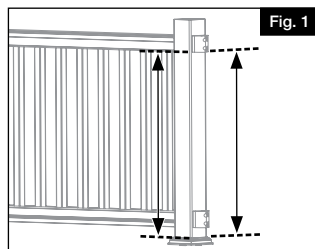

Fig. 1
- For 36" high rails, cut as needed and place dovetail install template against post sleeve directly on top of the base trim and secure in place with a rubber band (Fig. 1).
- For the post where the angled bracket will be installed, measure from the top of the base trim to the bottom of the already installed top rail (Fig. 1).
- 2** Temporarily secure a deck board (5/4") to your stair treads to determine the spacing between the nose of the stairs and your bottom rail (Fig. 1).